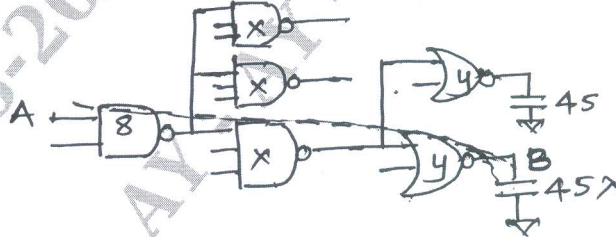

Fig.Q.4(c)
- Estimate the minimum delay of the path from A to B in Fig.Q.4(c) and choose transistor sizes to achieve this delay. The initial NAND2 gate may present a load of  $8\lambda$  of transistor width on the input and the output load is equivalent to  $45\lambda$  of transistor width.